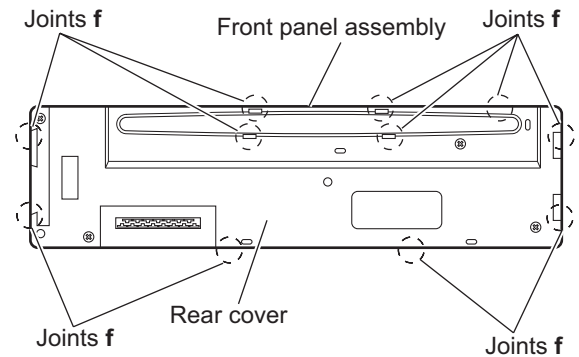

Fig.9
- (2) Release the eleven joints **f** attaching the rear cover to the front panel assembly. (See Fig.9)